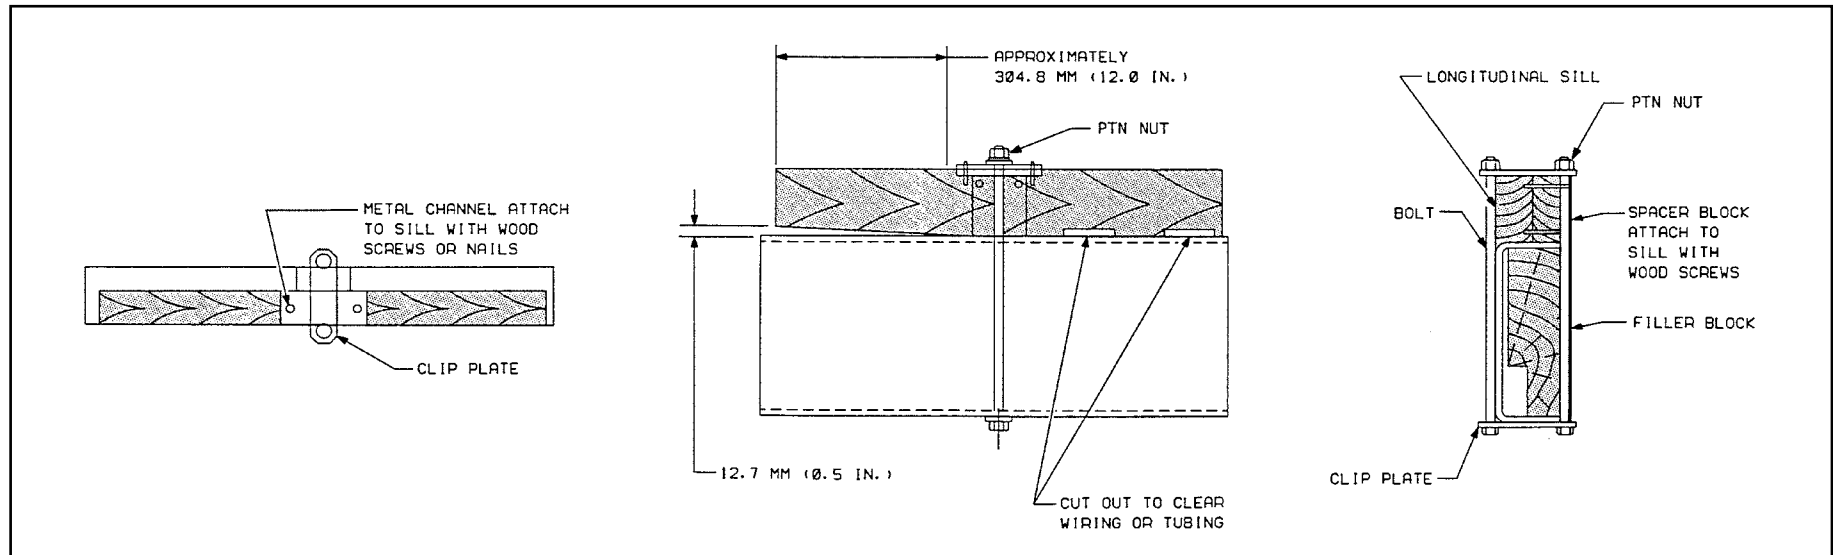

Figure 24
- The sill should rest directly and squarely on frame side rails. Wood sills must be chamfered 13 mm (0.5 in.) at the front end, tapering to meet the frame approximately 300 mm (11.8 in.) from front end of sill (see Figures 24 and 25).